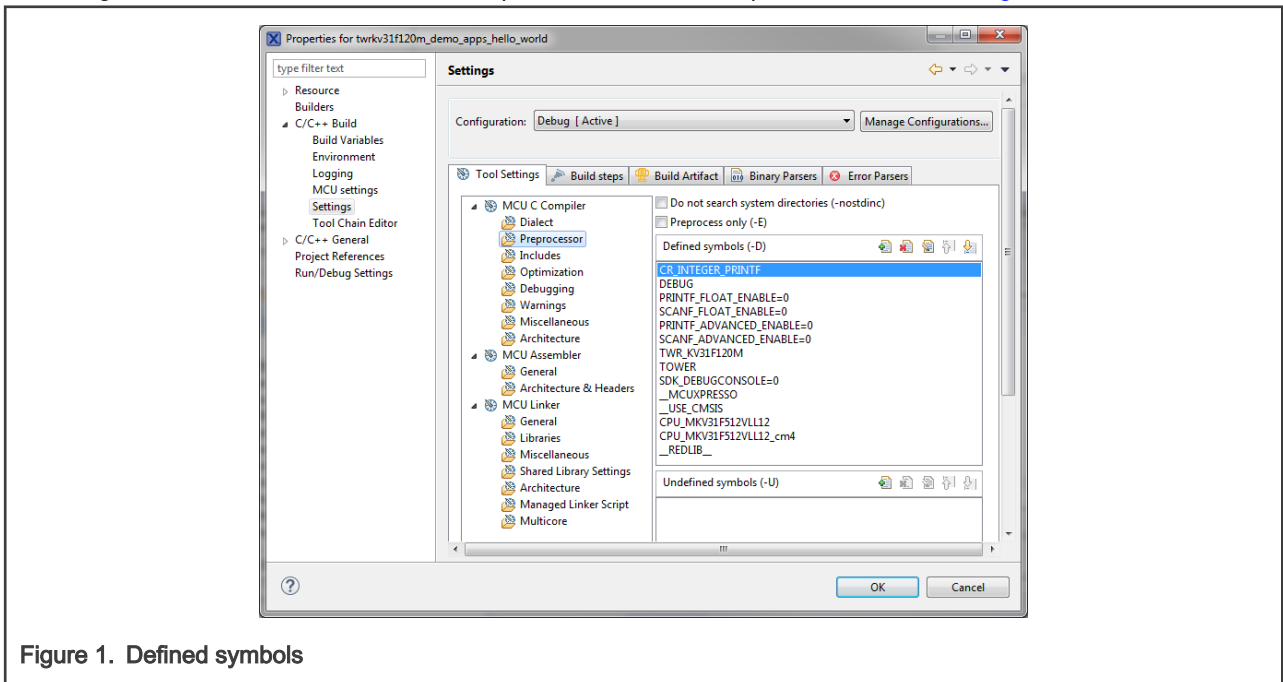

Figure 1. Defined symbols
- Expand the C/C++ Build node and select Settings. See Figure 1.
- On the right-hand side, under the MCU C Compiler node, click the Preprocessor node. See Figure 1.